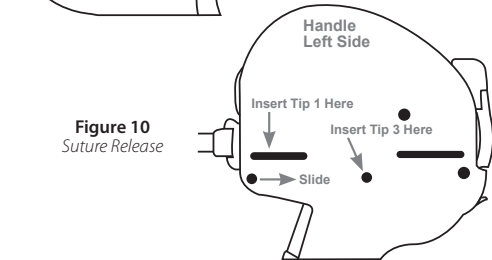

Figure 10
5.2.1 If it is desired to cut the monofilament suture without delivering Urethral End-Piece, Insert Tip 3 of Handle Release Tool (**Figure 8**) into hole on left side of case (**Figure 10**).
5.2.2 If the suture is not fully cut in Step 5.2.1, insert Tip 1 of Handle Release Tool (**Figure 8**) into the groove on the front left side of the case and slide the tool from front to back (**Figure 10**).